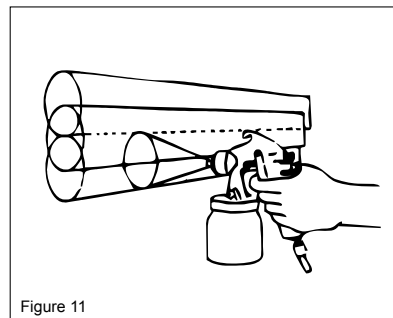

Figure 11
6. Overlap strokes just enough to obtain an even and fine coat on the workpiece. (See Figure 11)